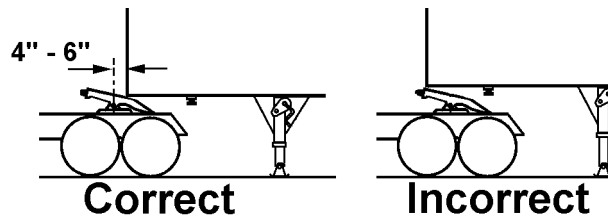

Figure 3-3 Coupling Truck To Trailer
6. Inspect the height of the trailer vs the fifth wheel. The kingpin plate on the front of the trailer should first contact the fifth wheel 4-6 inches rearward of the fifth wheel centerline. See figure 3-3. The trailer should raise slightly when the truck is backed under it. If the trailer is too low, the truck may strike and damage the front of the trailer. If the trailer is too high, it will not couple correctly. Adjust the landing gear as needed to achieve the correct trailer height.